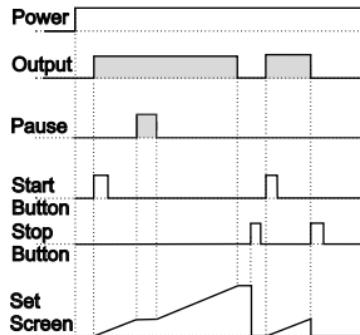

Figure 2.3
1.4.1 If Upcount ***dEct***=0 and ***outF*** is ***o-n*** the control diagram is shown in Figure 2.3